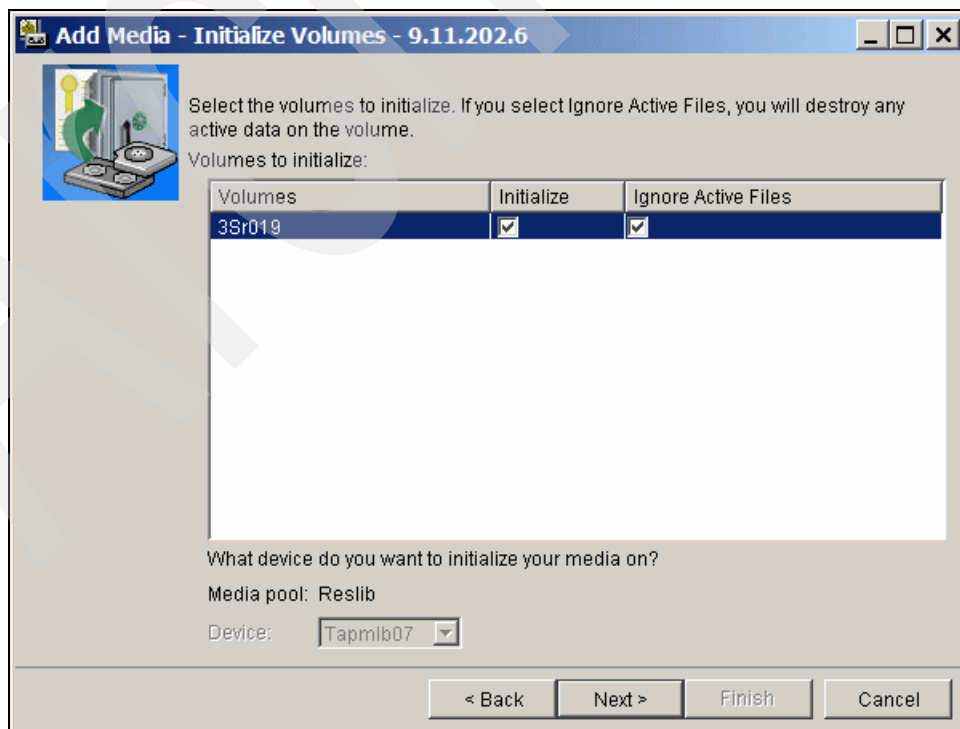

Figure 6-9 Initialize media
10. Next, you have to specify if the added cartridge should be initialized. In our example we want it to be initialized, and active files on the cartridge should be ignored, as shown in Figure 6-9. Click **Next**. On next wizard window, click **Finish** to confirm anti-aliasing the data cartridge.